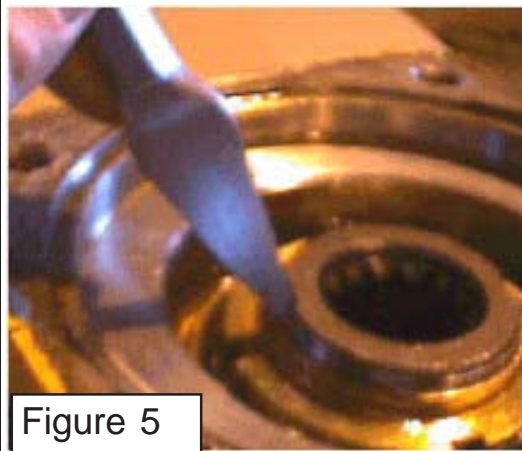

Figure 5
3. Place a 3/16" angled chisel, parallel with and into one of the staking slots in the threaded section of the shaft. Using a hammer, drive the chisel downward until the bent part of the staking flange on the adjusting nut is bent outward and is free of the slot and threads of the shaft. This procedure is done in two places on the shaft. A new nut will be required for reassemble. (figure 5).